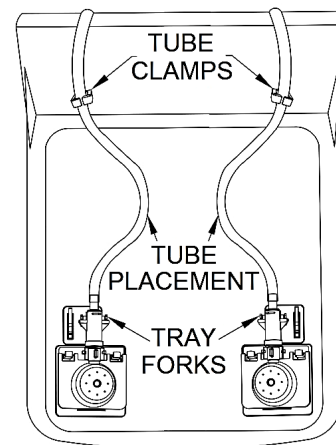

FIGURE 8
- B. To ensure that there is no tension on the tubing, verify that the tubing is captured in the tube clamps and curved slightly inward between the tube clamps and the tray forks. (**Ref Figure 8**).